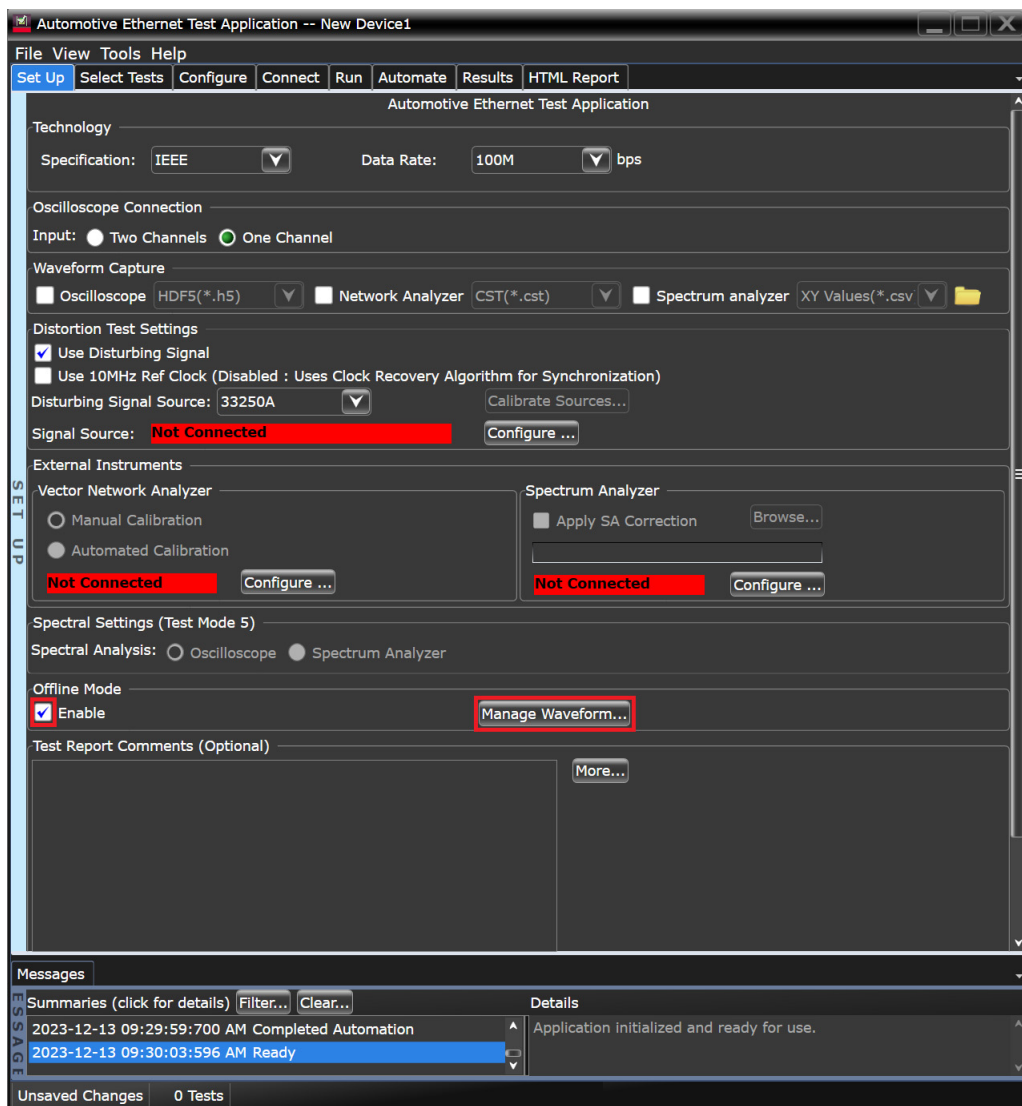

Figure 8-47 Enable the Offline Mode
- 1 Click **Manage Waveform...** as shown in Figure 8-47. The **Offline Waveform** dialog box appears.